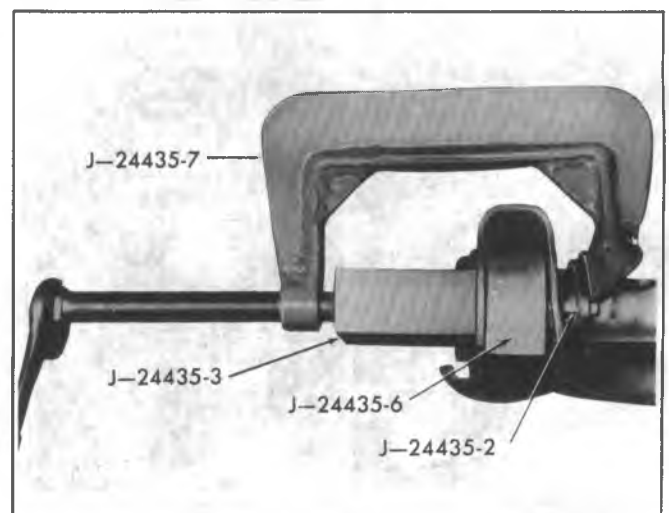

Fig. 3C-25--L.C.A. Rubber Bushing Removal
7. Compress the return spring (#15) and hold the spring in the compressed condition with fabricated clamps as shown in Fig. 3C-4K. After the clamps are installed, position the entire assembly in a bench vise so that the vise holds both ends of the clutch sleeve. Remove the retaining ring (#12).